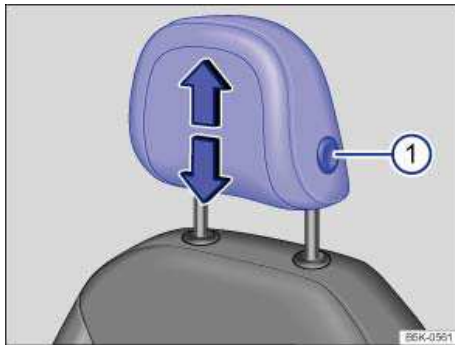
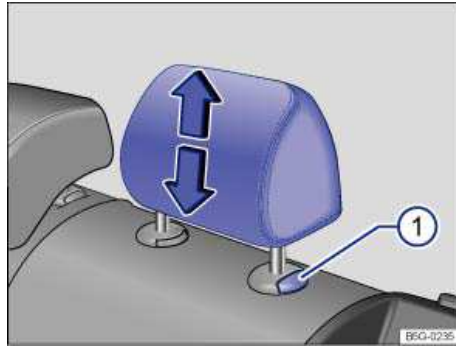

Fig. 37 Adjusting the front head restraints.
Fig. 38 Adjusting the rear head restraints.
- Pull the head restraint up in the direction of the arrow, or push it down while pressing the button ⇒ fig. 37 \(1\) or ⇒ fig. 38 \(1\) ⇒ ⚠.